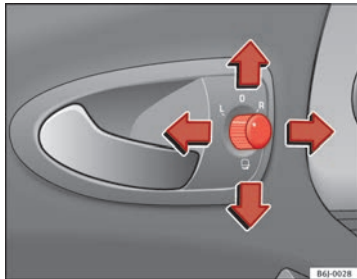

Fig. 68 Controls of exterior mirrors
1. Turn knob ⇒ fig. 68 to position **L** (left exterior mirror).
- Turn the control ⇒ fig. 68 to position  to fold in the exterior mirrors. You should always fold in the exterior mirrors if you are driving through an automatic car wash. This will help prevent damage.